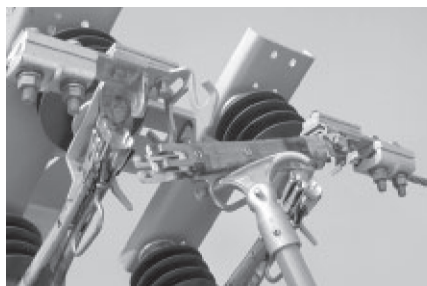

FIGURE 6
- To close the BP3 switch, place a hookstick in the pull ring on the blade and rotate the blade to an intermediate position as shown in **Figure 6**.